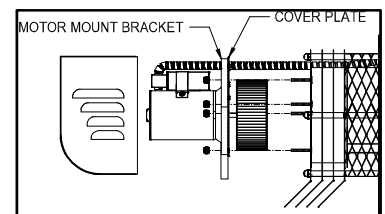

Figure 16
3. Remove the four nuts securing the motor assembly, and pull the motor assembly straight off of the unit. (See Figure 16)
2. Slide motor assembly onto protruding threaded studs on the power vent body. The exhaust chute must be pointing downward. Replace the four nuts securely to the threaded studs. (See Figure 16)